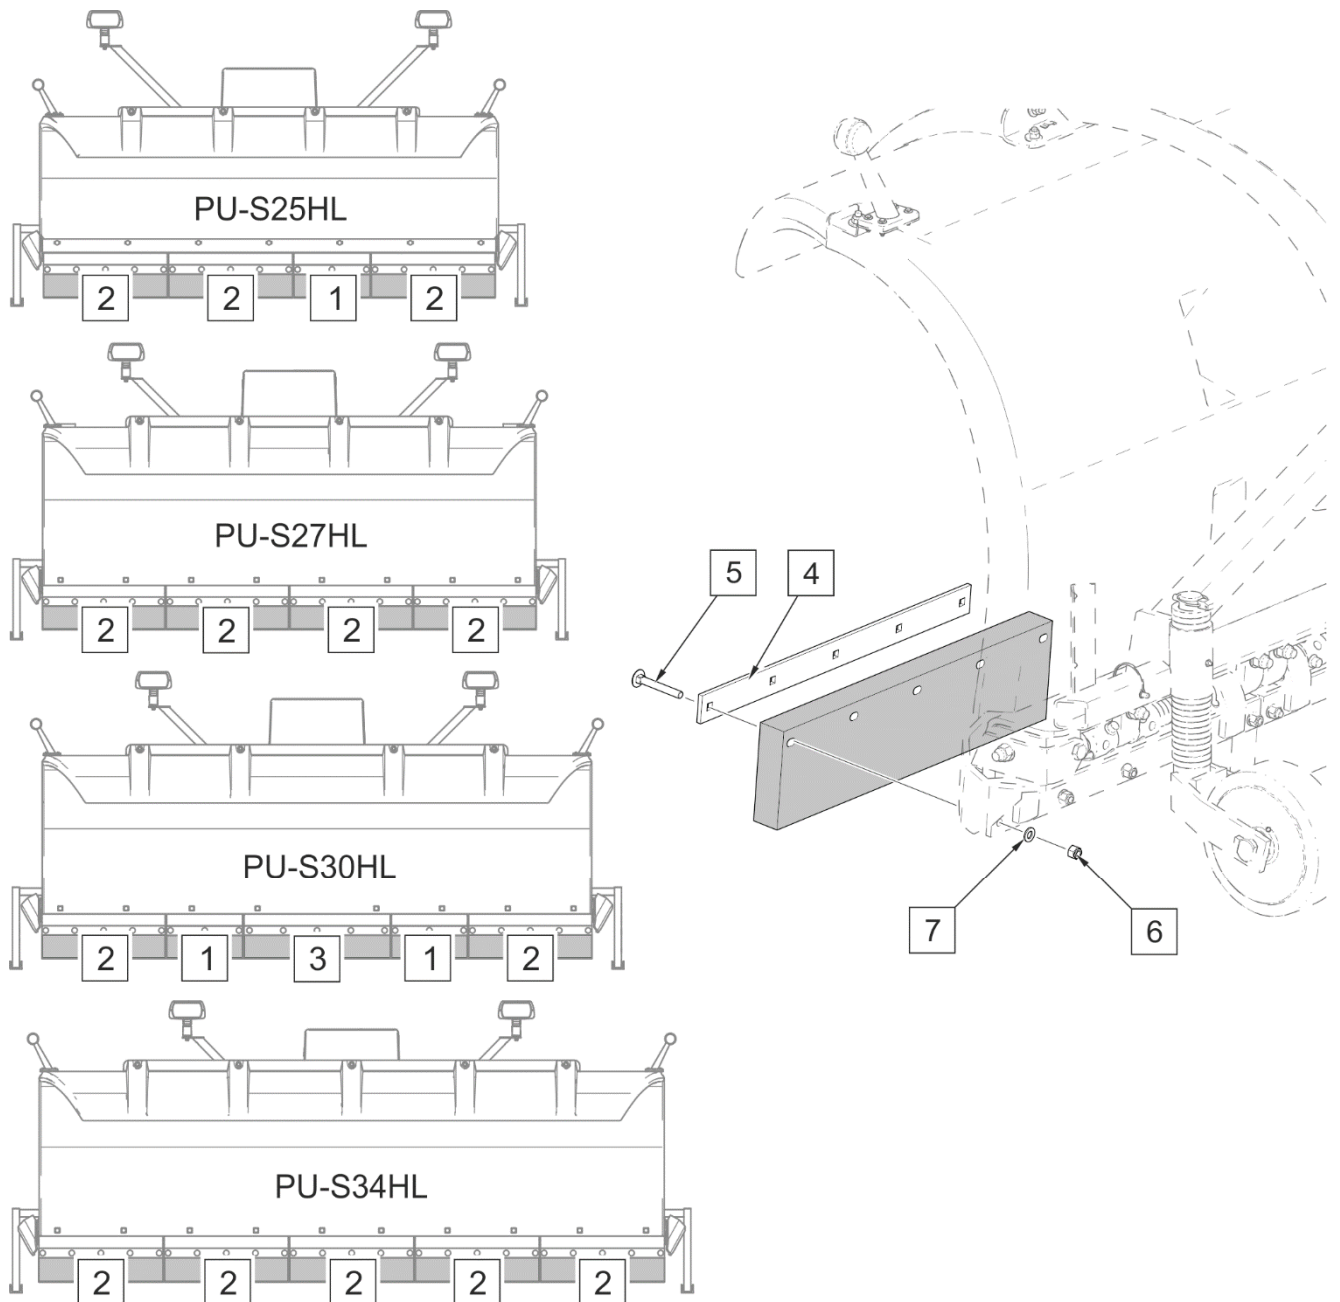

FIGURE 5.1 Replacement of rubber blades
Excessively worn or damaged blades must be replaced with new ones. To remove a rubber snowplough blade (FIGURE 5.1) undo nuts (6) of an appropriate segment, remove bolts (5). Used or damaged snowplough blade should be replaced with a new blade suitable for a given model of the snowplough (TABLE 5.1). Install in reverse order. Bolt and nut connections should be tightened using proper tightening torque (TABLE 5.6)